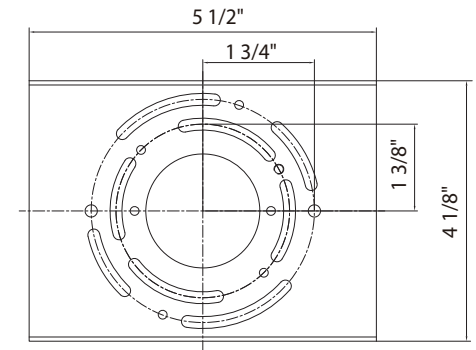

Fig. 2 Wiring
CONNECTING THE WIRES (Fig. 2)
8. Connect the driver's input wires to the junction box wires (Fig. 2) using wire connectors (A) provided. Ensure all wire connectors are secure. Connect the fixture's ground wire to the ground in the junction box; this will be either a green wire or a bare copper wire. After fixture is wired to house wires, tuck wires carefully inside the junction box.
9. Secure the fixture to the mounting plate using the mounting screws (B).